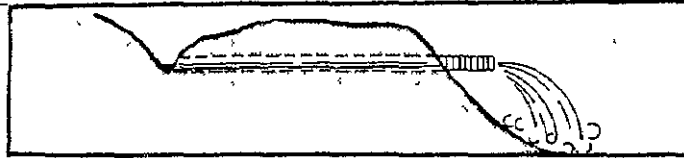
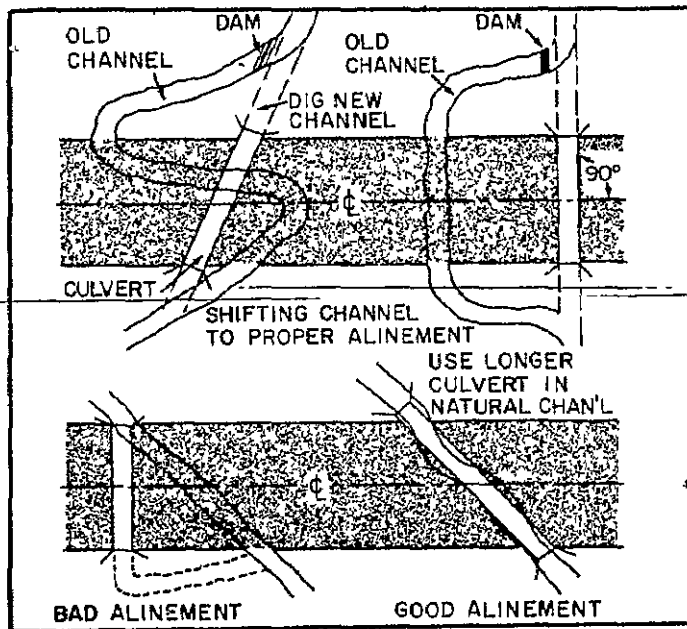
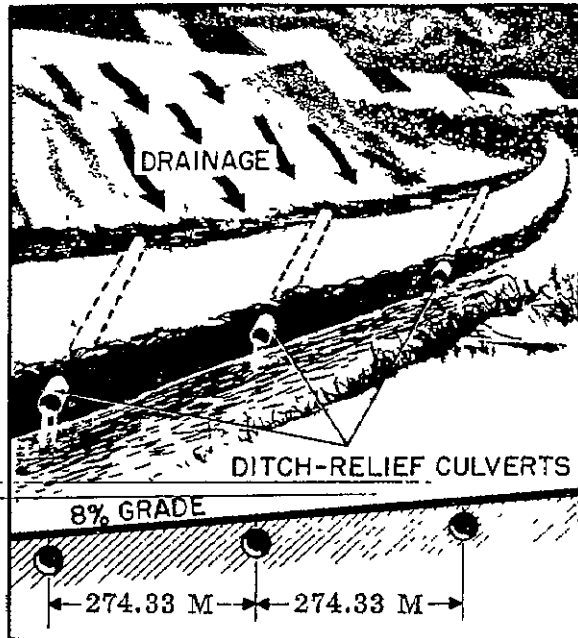
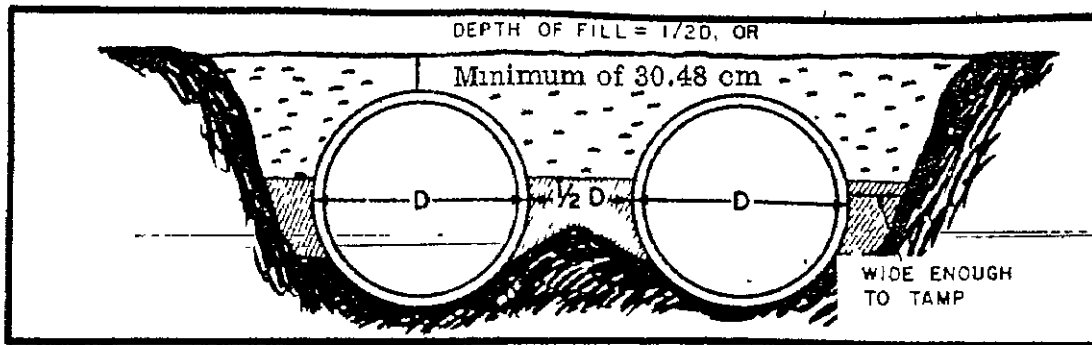

Figure 47. Culvert extended beyond fill to prevent erosion.
Figure 48. Alignment of culverts.
Figure 49. Spacing of ditch-relief culverts.
Figure 50. Spacing of multiple-pipe culvert.
(1) A way to prevent erosion is shown in figure 47. Suggestions on their alignment are shown in figure 48.
(2) Culverts are normally at the grade of the natural and artificial drainage channels which discharge into them. Grades of 2 to 4 percent are desirable. Velocities should not be over 2.44 meters per-second nor less than .76 meters per second.
(3) Culverts should be placed wherever natural drainage channels require cross-drainage. Figure 49 shows the spacing of ditch-relief culverts. The bedding and spacing of multiple-pipe culverts is equal to at least half the diameter of the pipe (figure 50).